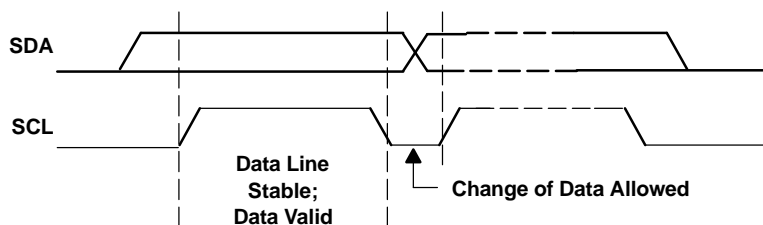
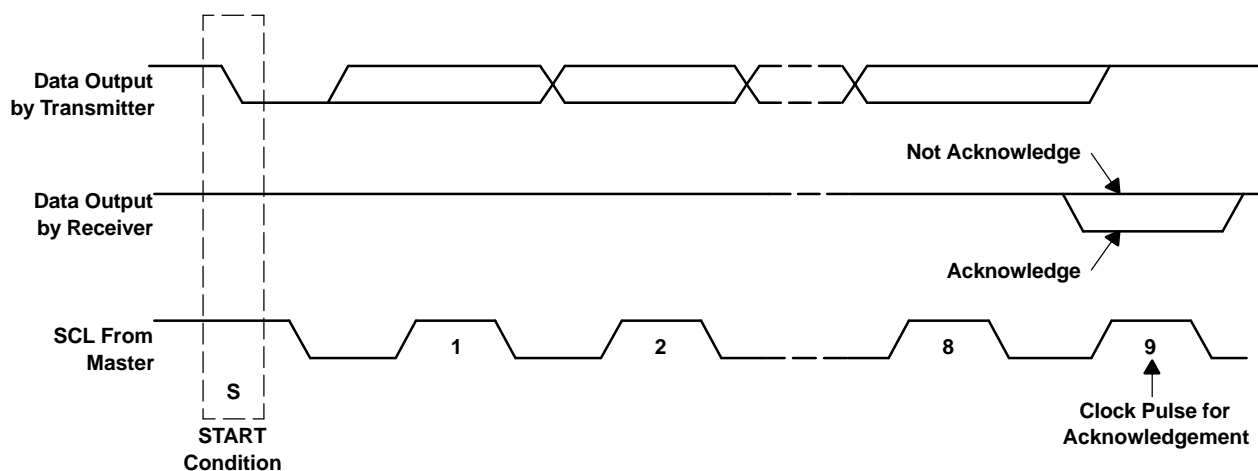

Figure 48. Bit Transfer on the I2C Bus
Figure 49. Acknowledge on the I2C Bus
- The master then generates the SCL pulses, and transmits the 7-bit address and the *read/write direction bit*  $R/\overline{W}$  on the SDA line. During all transmissions, the master ensures that data is *valid*. A *valid data condition* requires the SDA line to be stable during the entire high period of the clock pulse (see Figure 48). All devices recognize the address sent by the master and compare it to their internal fixed addresses. Only the slave device with a matching address generates an *acknowledge* (see Figure 49) by pulling the SDA line low during the entire high period of the 9th SCL cycle. Upon detecting this acknowledge, the master knows that communication link with a slave has been established.